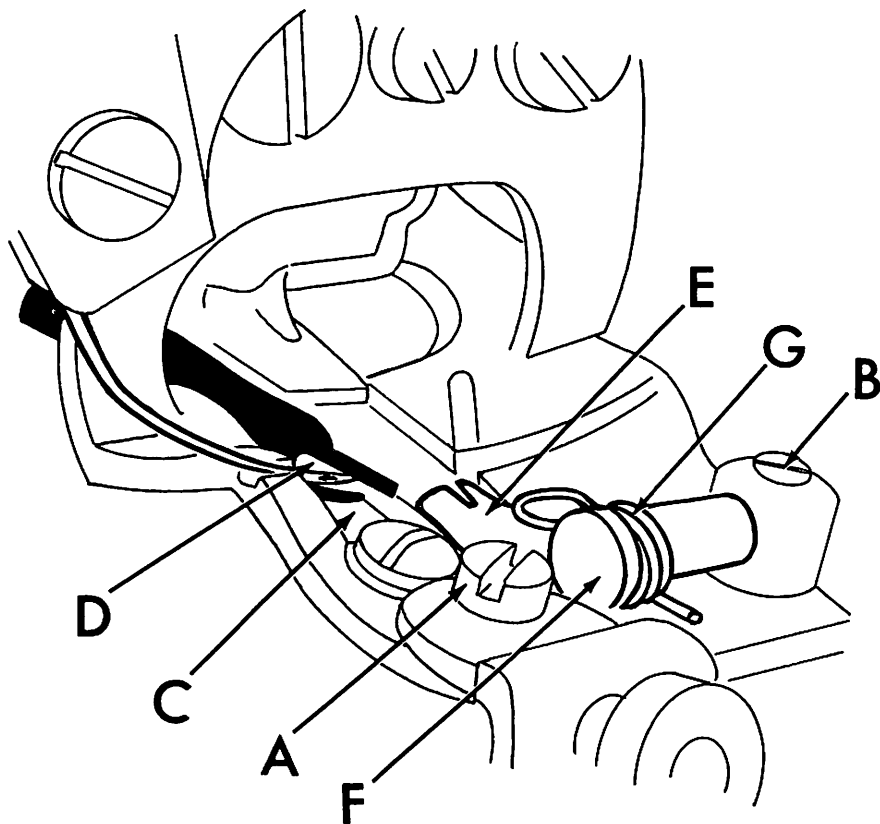

FIGURE 8
6. Once the looper is timed with respect to the needle as outlined in paragraphs 2 thru 5 above, slowly turn the handwheel in a direction away from the operator, until the looper approaches the edge of the looper slot (Point "C" in Figure 8) in the presserfoot. At this point make sure the small prong of the looper clears this edge. If it does not clear, adjust the eccentric block as outlined in paragraph 5 until the interference is eliminated.
7. Continue turning the handwheel away from the operator until the point of the needle starts to enter the area in between the looper prongs. (Refer to Point "D" in Figure 8). If the needle strikes the crotch of the looper, the looper has generally been set too far forward. Check to see if the looper has been inserted into the clamp as far as it will go. It should be inserted until the shoulder on the looper is stopped on the clamp. If this check is satisfactory, recheck the distance from the center of the looper rod fork pin to the rear face of the looper rod ball. Refer to paragraph 4 and reset if necessary. If neither of the above two measures corrects the problem, it is possible that the needle lever may be set too low and requires adjustment.
1. The shoe, (item "E" in Figure 8), also known as a cloth retainer, normally will not require replacement. However, in the event of wear due to the particular fabrics being used, or if the shoe or spring suffers any damage, they may be readily replaced.
2. The first step is to remove the complete front guide assembly by unscrewing the front guide holder attaching screw (item "A" in Figure 8). Next loosen the shoe pin lock screw (item "B" in Figure 8) and slide out the shoe pin (item "F"), shoe and retaining spring (item "G"). Before removing these components it is advisable to note the manner in which the spring is assembled so that it may be reinstalled in the same way.